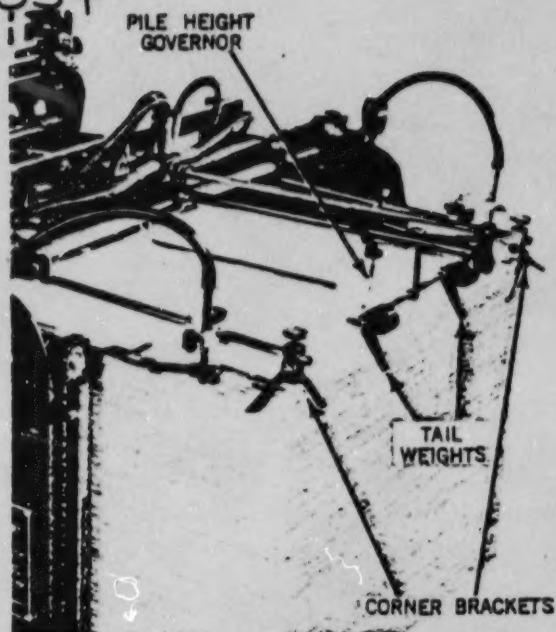

Figure 8-11. Feeder board rear pile guides.
Pile height governor --	Regulates the height of the top of the pile as it is rising automatically (fig. 8-11).
Corner brackets -----	Used, along with the tail weights, to hold the stock against the pile guide bars (fig. 8-11).
Tail weights -----	Used, along with the corner brackets, to hold the stock against the pile guide bars. They keep the sheets from floating back when the airblast is turned on (fig. 8-11).
(6) *Setting rear pile guides* (fig. 8-11). Complete the loading of the feeder board by setting the corner brackets and tail weights. These push the entire pile lightly forward against the front pile guide bars. Do not set the corner brackets and tail weights too tight because they will bind the sheets, causing feeder troubles.